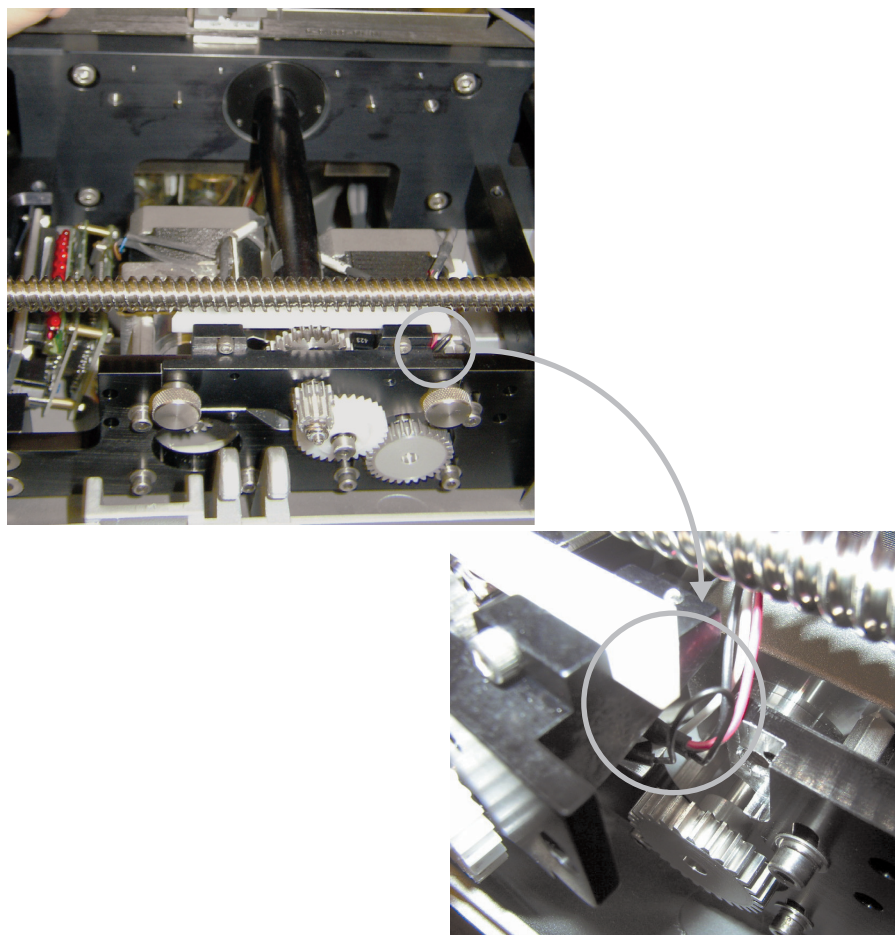

Fig. 21: Load lock door sensor wires.
13. Carefully replace the pawl drive assembly, lining up the posts on the load lock door with the pawl drive plate. Take care not to catch the load lock door home sensor wires between the pawl drive plate and the autoloader mounting plate (Fig. 21).